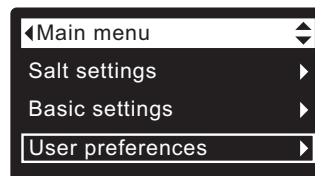

FIG. 109
1. From any of the rolling status screens, press the SELECT (O) button to display the **Main menu**.
2. Press the DOWN (▼) button to scroll through the menu options until **User preferences** is highlighted (See Figure 109).